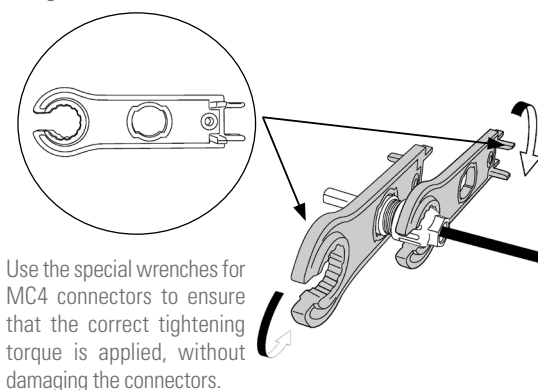

Fig. 20. Using an open-end wrench.
- f. Use an open-end wrench to screw the nut all the way in and make sure that the terminal is sealed well, as shown in Fig. 20: